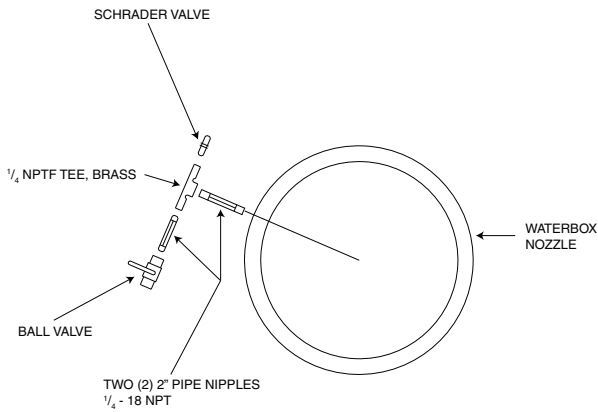

Fig. 49 — Suggested Installation of Pressure Transducers into Water Nozzles Using Flushable Dirt Leg Trap
- Installation of pressure transducers into water nozzles using flushable dirt leg trap is suggested; see Fig. 49. Pressures can be calibrated between 100 and 250 psig (689.5 and 1723.7 kPa) by attaching a regulated 250 psig (1724 kPa) pressure (usually from a nitrogen cylinder). For calibration, access the Pressure Sensor Calibration Menu from the Maintenance Menu and calibrate the appropriate sensor.